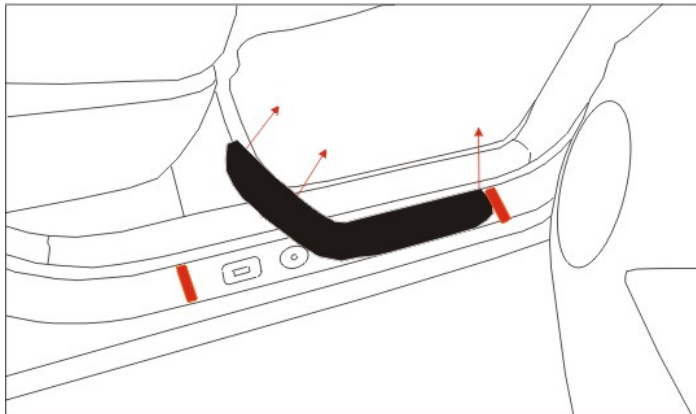

Fig. 3-1
- (a) Using an NRT, Lift the edge of the factory sill plate. (Fig. 3-1)